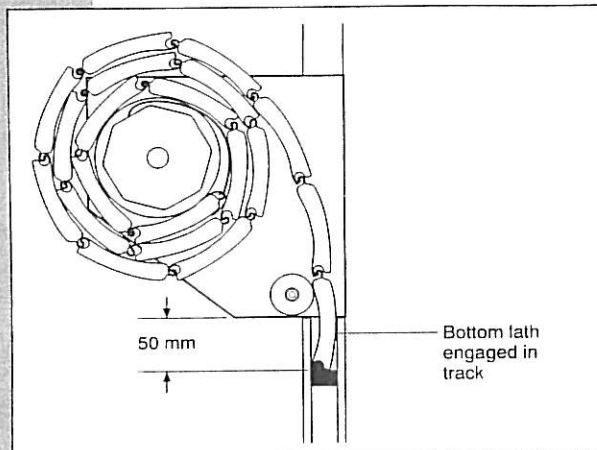

Fig 26 Fully open position
9.1.7 Use the Motor override handle to move the curtain to the correct OPEN position. **IMPORTANT** see Fig 26 for correct OPEN position.